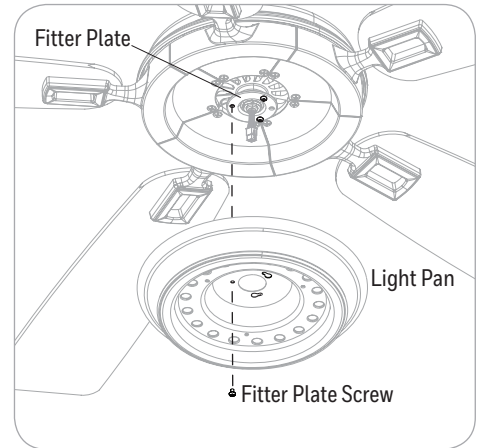

Figure 5.6
6. Remove one of the three fitter plate screws from the fitter plate and loosen the other two. Then lift the light pan and place the two keyhole slots in the light pan over the two loosened fitter plate screws. Turn the light pan in a clockwise direction and secure it using the previously removed fitter plate screw. Tighten all three fitter plate screws (Figure 5.6).